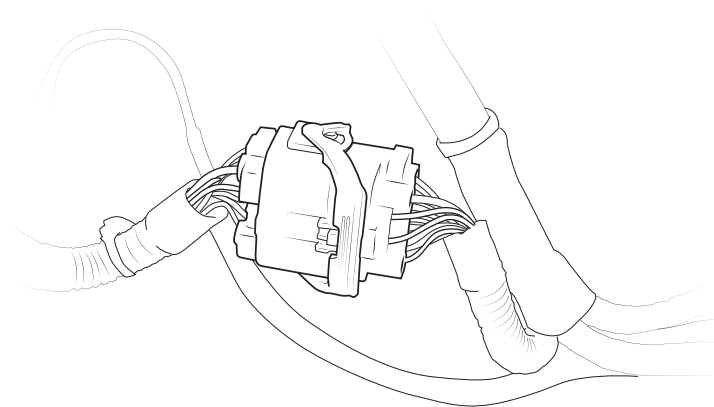

Figure 1
6. Unplug the 34-way connector from the battery tray, then remove the harness from the battery tray and loosen at the fire wall (fig. 1)